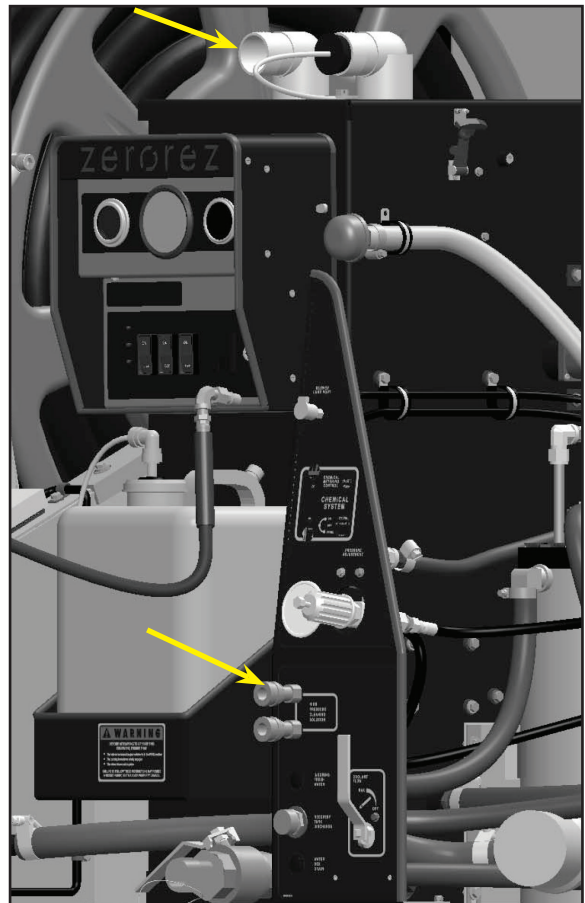

Figure 129. Connect Freeze Guard Hose
1. Connect the black stopper end of the freeze guard hose to the Recovery Tank inlet (see Figure 129).
2. Connect the other end of the freeze guard hose to one of the outgoing cleaning solution quick connect fittings (see Figure 129).